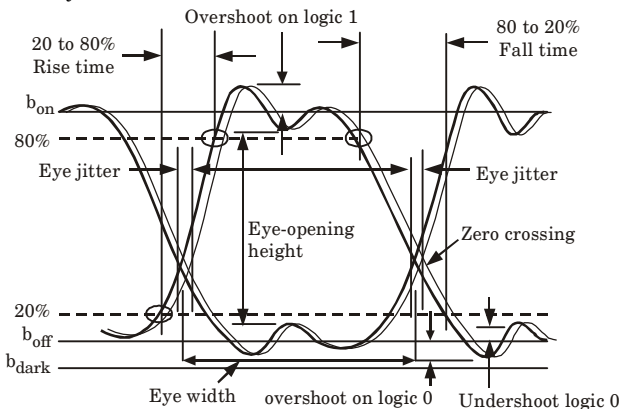

Fig. 5.6.2. General configuration of an eye diagram showing the definitions of fundamental measurement parameters.
2. Fig. 5.6.2 shows a typical display pattern, which is known as an eye pattern or an eye diagram. The basic upper and lower bounds are determined by the logic one and zero levels, shown by b_{on} and b_{off} respectively.